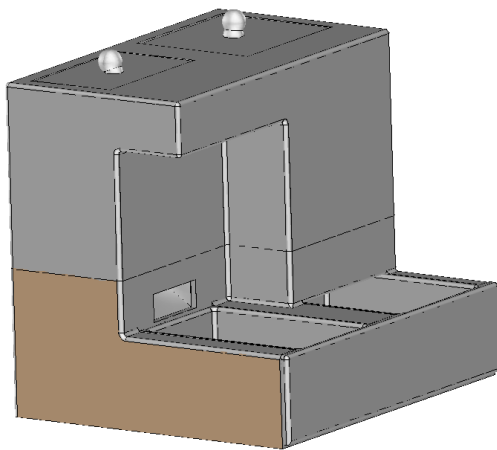
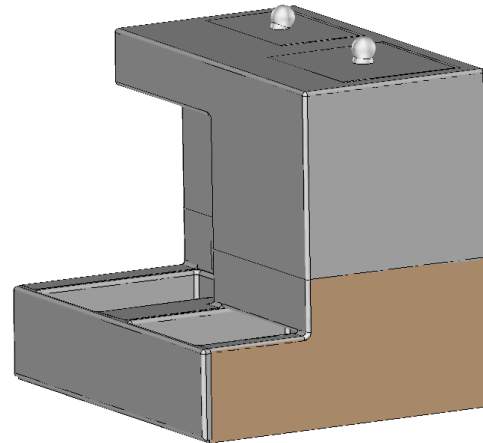

Figure 15 Feeder Device, hold safety zone left
Figure 14 Feeder Device, hold zone right
- g) Always **pick the Feeder Device** from the **bottom of the case**, Fig.14 and Fig.15.